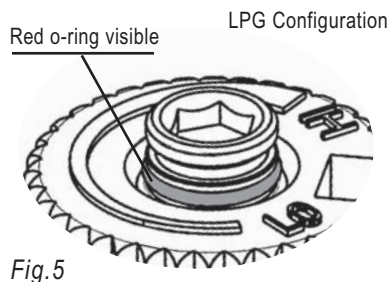

Fig.5
- 21) Verify that if the conversion is from NG to LPG, the screw must be re-assembled with the red o-ring visible (Fig. 5).